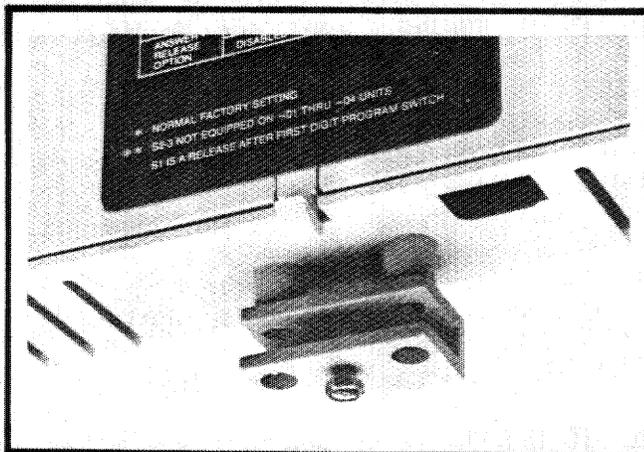

Figure 11 Remount Screw Clamp on Bottom of Housing
6.24 Some linefinder shelves may not have enough clearance below the angle iron to mount the M-164's. In these installations the screw clamp is moved to the bottom of the housing as shown in figure 11 and the M-164's are then mounted above the angle iron.